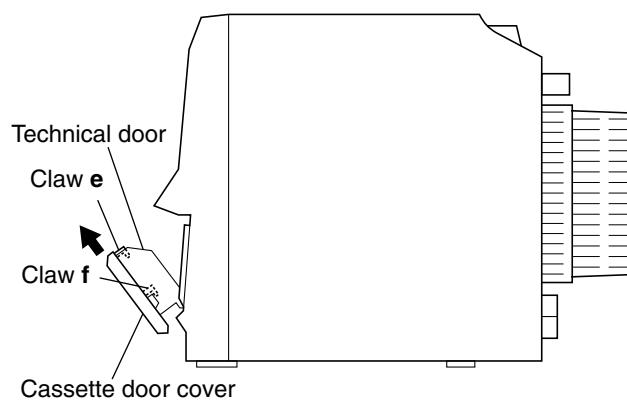

Fig.21
■ Removing the cassette door cover (See Fig.21.)